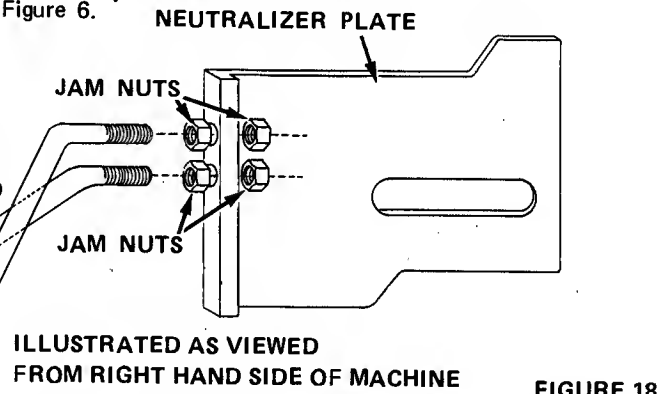
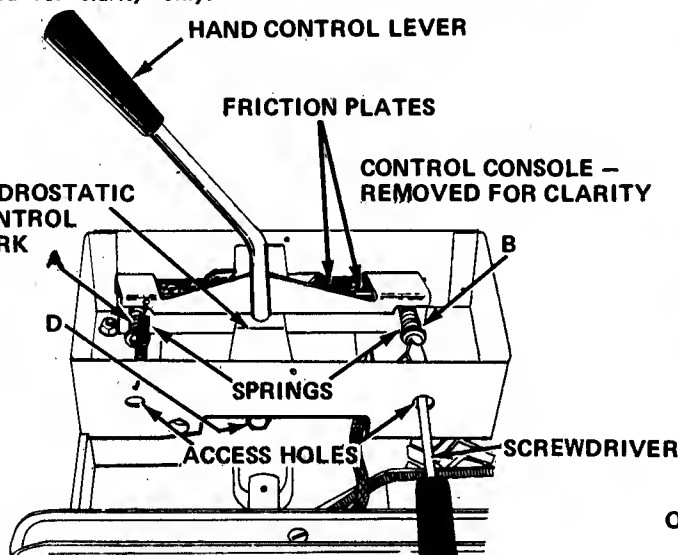

FIGURE 18
FIGURE 19
1. Oil the roller in the cam slotted plate shown in Figure 18 with a few drops of light oil every 25 hours of operation or monthly.
4. Loosen clamp bolt B, Figure 18 a sufficient amount to allow the cam follower to rotate. Turn the eccentric "clockwise" or "counter-clockwise" as required until the rear tractor wheels completely stop. Retighten clamp bolt B.
2. Loosen clamp bolt B, Figure 18 and rotate the eccentric until the flats on the eccentric are parallel to the cam slot as shown in Figure 18. Retighten bolt B. This will assure a maximum fine adjustment range.
3. With the control fork, Figure 19, move the cam, Figure 18, until the cam follower roller is lined up with the cam dwell center mark. **DO NOT** adjust the hydrostatic control fork, Figure 19, if the control lever is not in the neutral slot of the console. This is the final adjustment to be made.
5. Loosen pintle lever clamp bolt A, Figure 18, a sufficient amount to allow the pintle lever to move freely. Move the hydrostatic control lever, Figure 19, in the park-start position, start the engine and run at idle. Return the control lever to the neutral slot in the control console.
Check that the cam follower roller is lined up with cam dwell center mark. Move the pintle arm back and forth until wheels stop turning. Carefully tighten bolt A, Figure 18. The neutral adjustment is extremely sensitive and this procedure is a coarse adjustment. If, when bolt A is tightened, the wheels still move slowly, the fine tuning will be done in step 9.
7. Loosen (4) jam nuts on neutralizing plate, Figure 18, and depress neutralizer pedal completely, Figure 3. The cam follower roller, Figure 18, should remain in line with the cam dwell center mark. Snug (4) jam nuts up against neutralizer plate. Release pedal and securely tighten jam nuts.
8. Check the hydrostatic control lever. If the neutralizer pedal does not automatically shift the control lever to the neutral position from either "forward" or "reverse" when the pedal is fully depressed, loosen hydrostatic control fork adjustment bolt D, Figure 19. Move the fork so that it aligns with the neutral slot in the control console. Securely tighten bolt D.
9. If the wheels still move slowly when neutralized, increase the engine speed to full throttle. Loosen clamp bolt B, Figure 18 and adjust the eccentric roller until the wheels stop completely. Tighten clamp bolt B, Figure 18.
The hydrostatic friction plates, shown in Figure 19, must be adjusted so the control lever moves through the "forward" and "reverse" modes with a minimum of force. However, there must be sufficient spring pressure on the friction plates so that, under normal operating conditions, the control lever will remain at any selected setting.
If the tractor has a tendency to slow down or speed up without touching the control lever, it will be necessary to increase the spring pressure on the friction plates by tightening the screws at A and B, Figure 19. Access to these screws can be gained by raising the rear deck of the tractor and inserting a screw driver through the access holes as shown.
NOTE: The control console, see Figure 19, has been removed for clarity only.